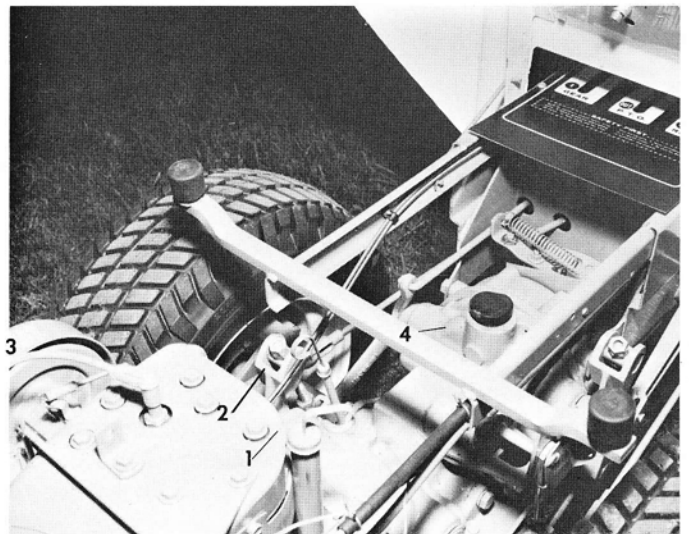

FIGURE 4
2. Check BOTH oil levels. See figure 4. The Transmission oil level is checked by 2 on Figure 4, the Engine oil level by 1 on Figure 4. Be sure oil is to the full mark on each dip-stick when the tractor is level.